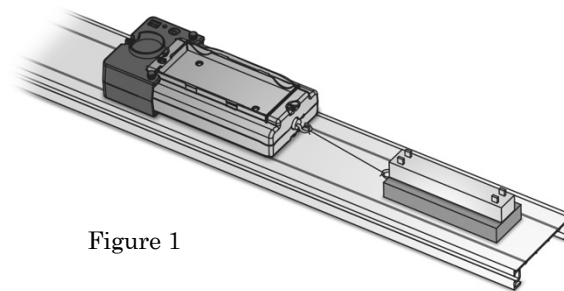

Figure 1
4. Place the friction block on the track and place a 250 g mass on the center of the block. Connect the block with a short (< 10 cm) loop of string to the hook. See Figure 1. Indicate below whether you are placing the wood or felt side down. It doesn't matter which you choose as long as you don't change it.
8. Note at which centimeter mark the front end of the friction block is starting. You will want to start it in this position for every trial. For example, in Figure 1 the block is at the 20 cm mark.